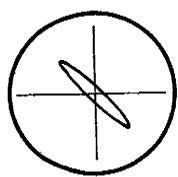

Fig. 23
- 3) If front left signal and front right signal is in phase, the waveform on oscilloscope screen will appear as shown in Fig. 23.